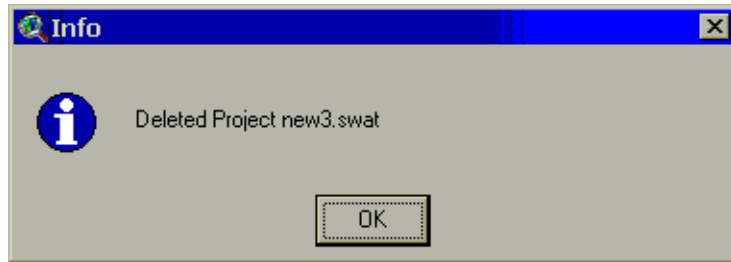

Figure 4.8
5. The selection mouse pointer will be replaced with an hourglass symbol during the delete process. Once the delete process is complete, a prompt box will be displayed (Figure 4.8). Click **OK**.